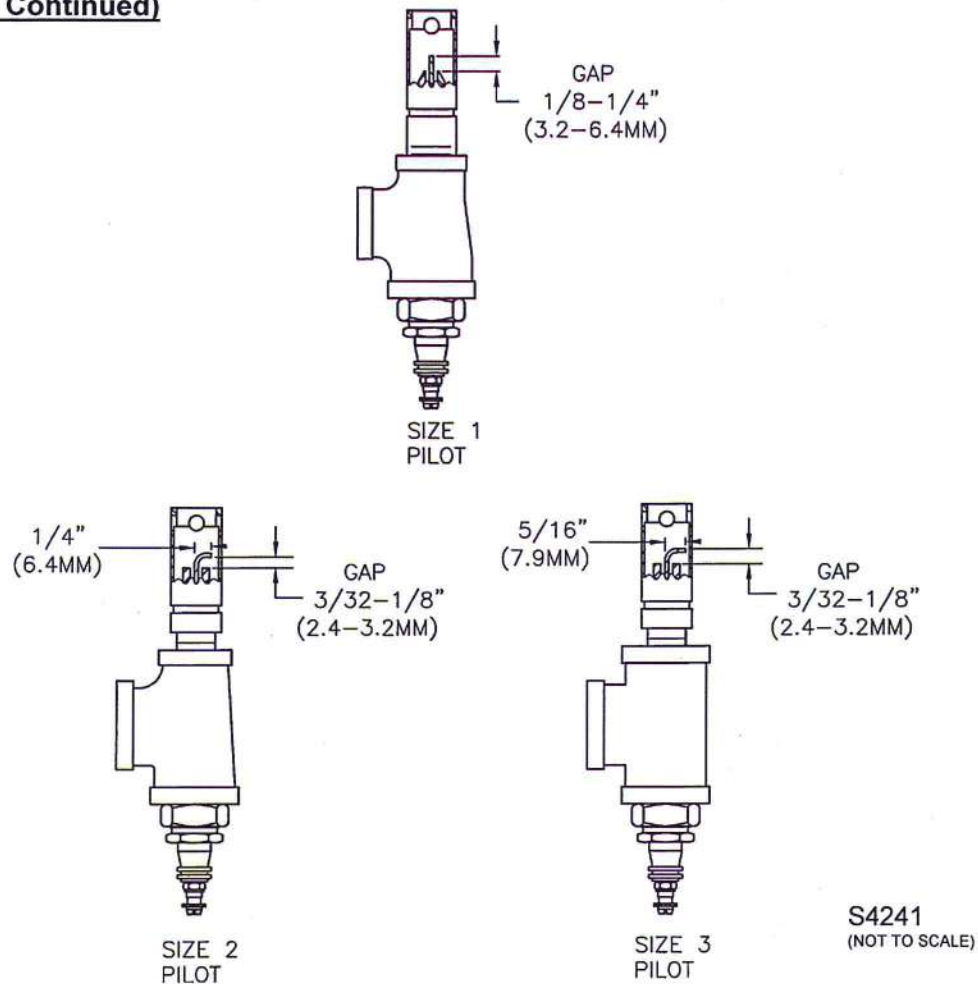

Figure 1. Spark Gap Setting and Electrode Positioning
1. Be sure the spark plug is set as shown in Figure 1. Ideally, initial pilot set-up should be done with the pilot outside of the burner.
Periodically remove and inspect the spark plug. If the ceramic insulator is cracked or broken, replace it. Clean the unit of any carbon buildup. **When replacing the plug, avoid over-tightening the nut holding the plug to avoid cracking the plug's ceramic insulator.** Before use, ensure the plug's wire electrode is centered in the pilot nozzle (see Figure 1 for setting spark plug).